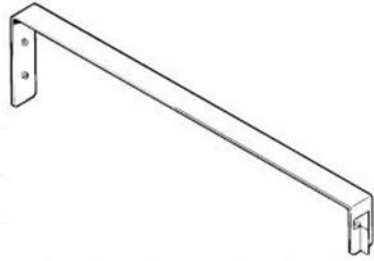

Figure 4
- Alignment Ruler (part number 50973) used for checking the alignment of the patient positioning mechanism. (Figure 4)